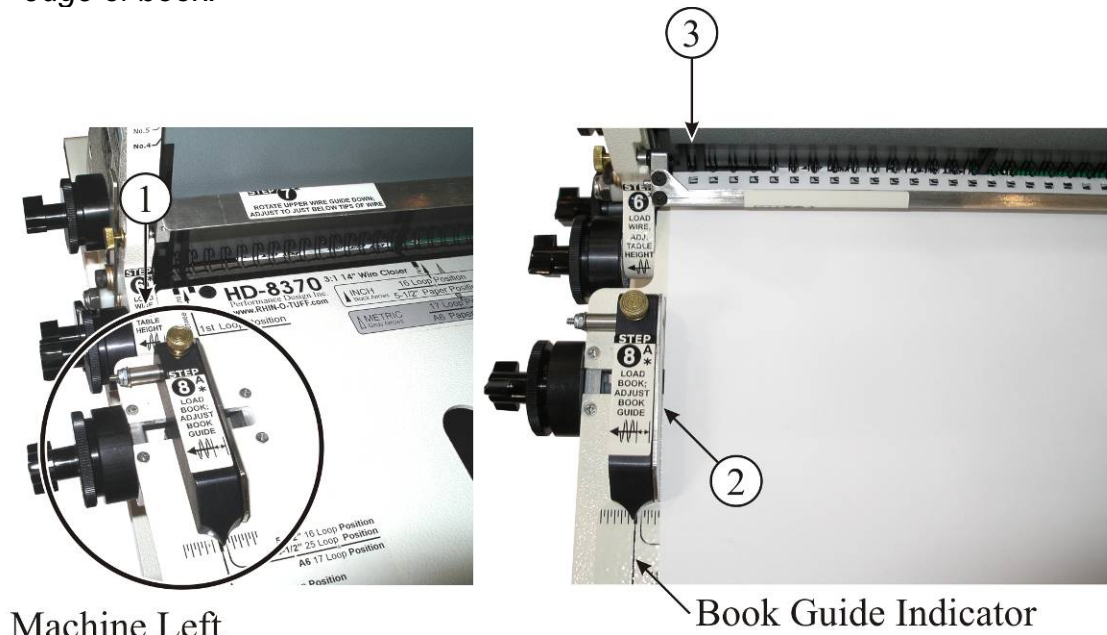
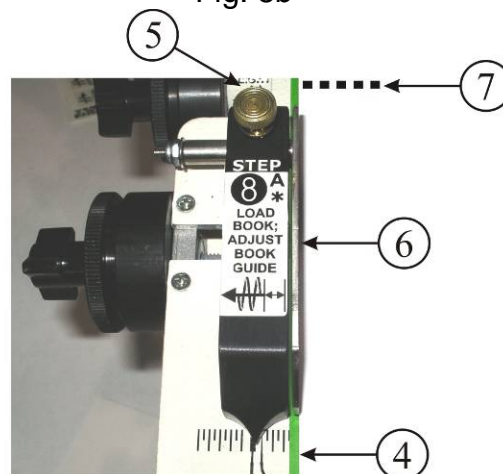

Fig. 8b
Fig. 8c
Locate the book guide adjustment knob in Figure 8b item 1 only located on the left side of the machine. Unlock the center winged knob and turn the outside dial until the book guide indicator is in front of the book length to be bound. Fine tune while the Book is aligned to the Book Guide (2) and the punched holes align with the Wire (3). See Figure 8c. If overhanging covers are to be used (4), offset of book to cover can be obtained by loosening the overhanging cover guide knob (5) and offsetting the contents of book to cover with the Covers under the Overhanging Cover Guide (6). The alignment of the Cover Holes and Book Holes (7) to the wire will have to be done manually when using overhanging covers. Retighten when adjusted.